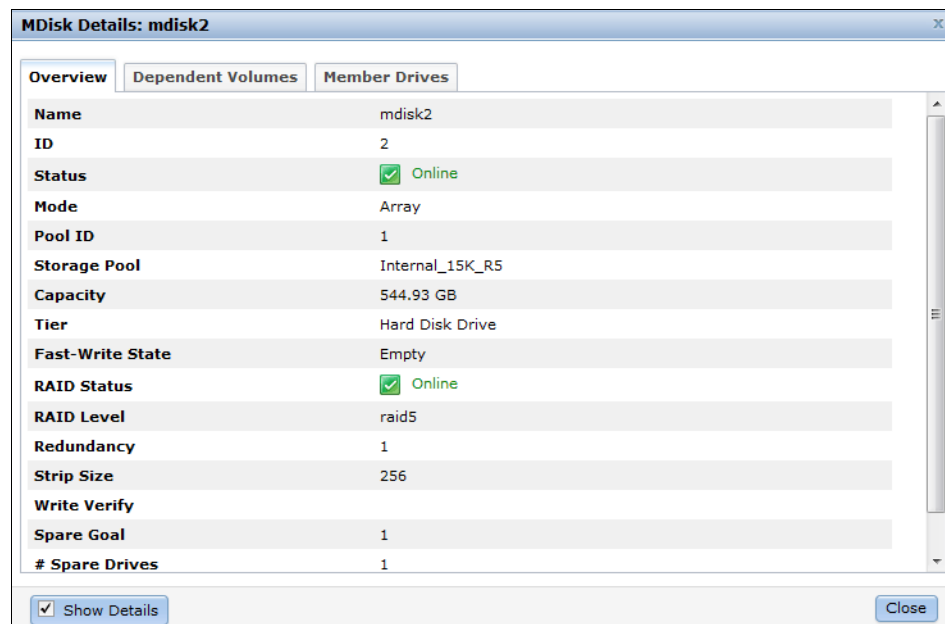

Figure 8-57 MDisk overview with detailed information
- ▶ The *Overview* tab contains information about the MDisk itself. To show more details, click **Show Details** (Figure 8-57).